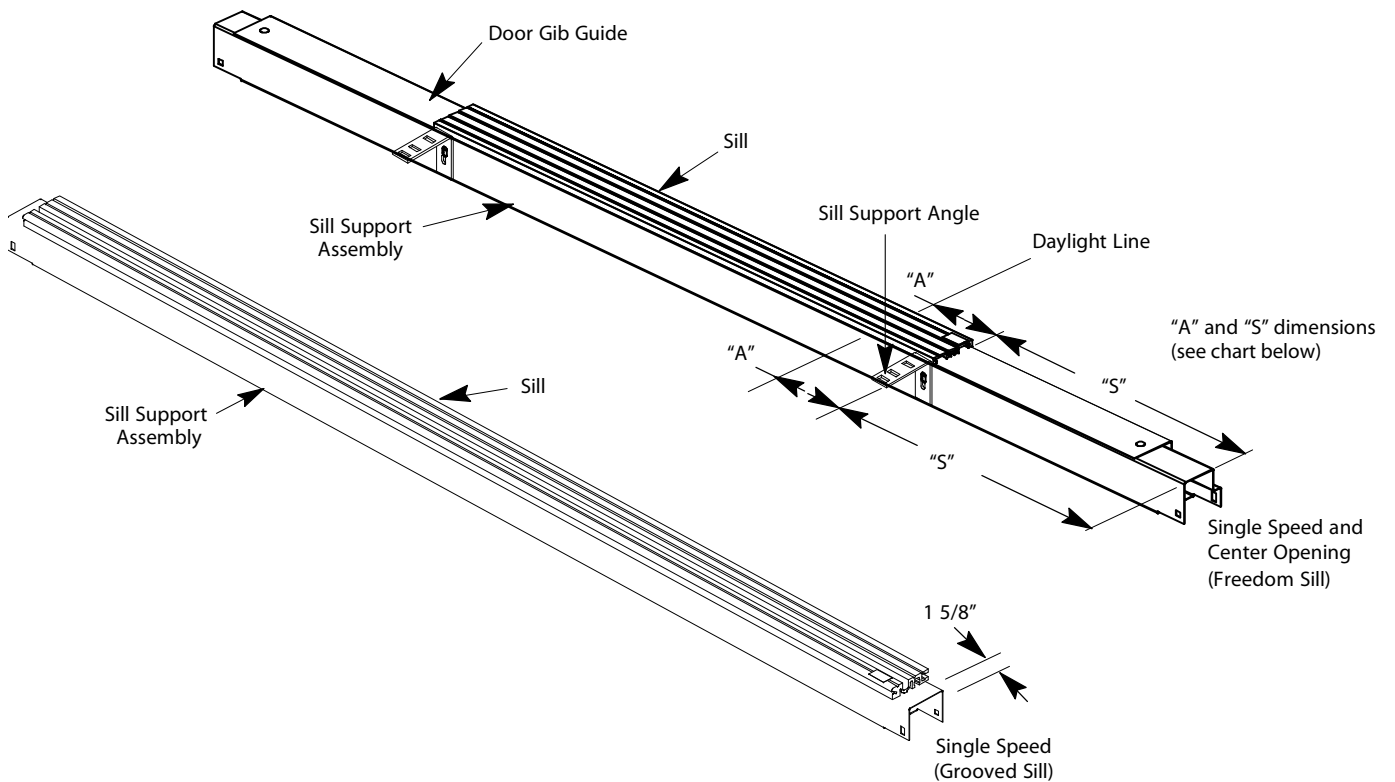

Figure 10 - Sill-to-Sill Support Connections
- Verify that the sill is flush with the door gib guide, and the strike column assembly overlaps the sill support assembly 1/8", with 3 1/2" of exposed sill. See Figure 10 for the correct sill-to-sill support connections.